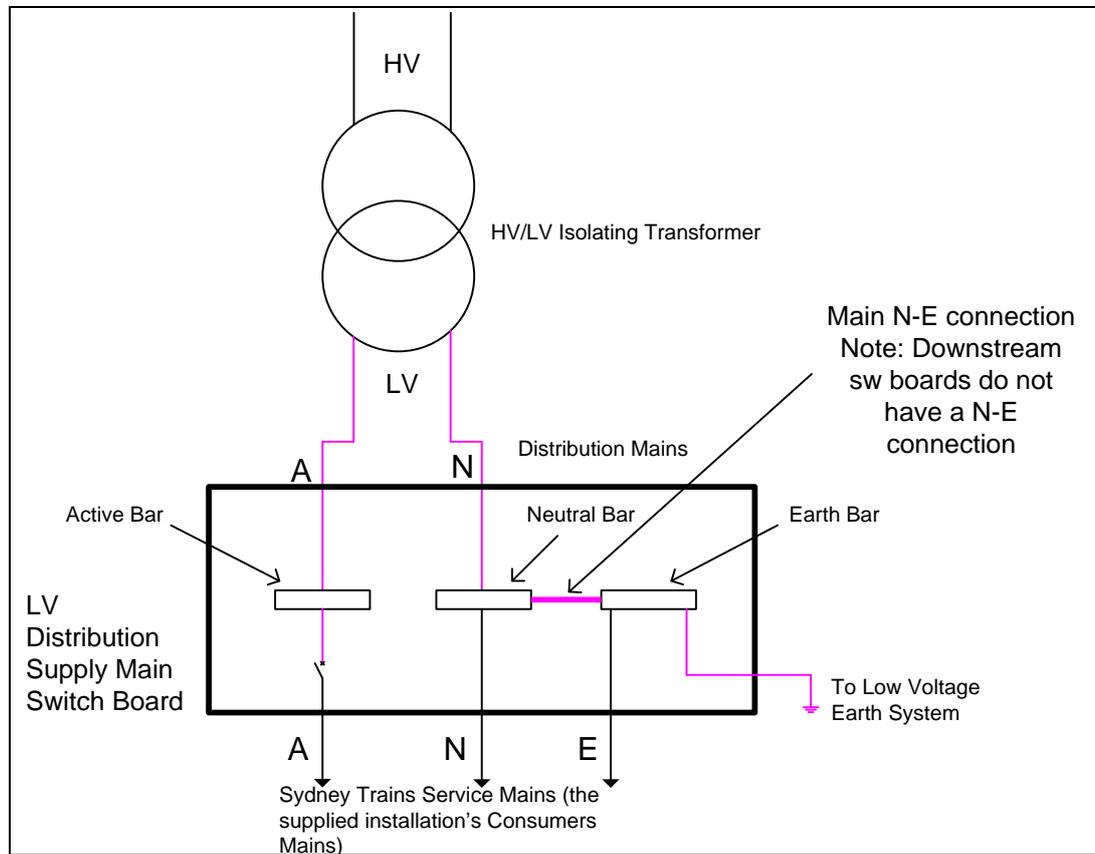
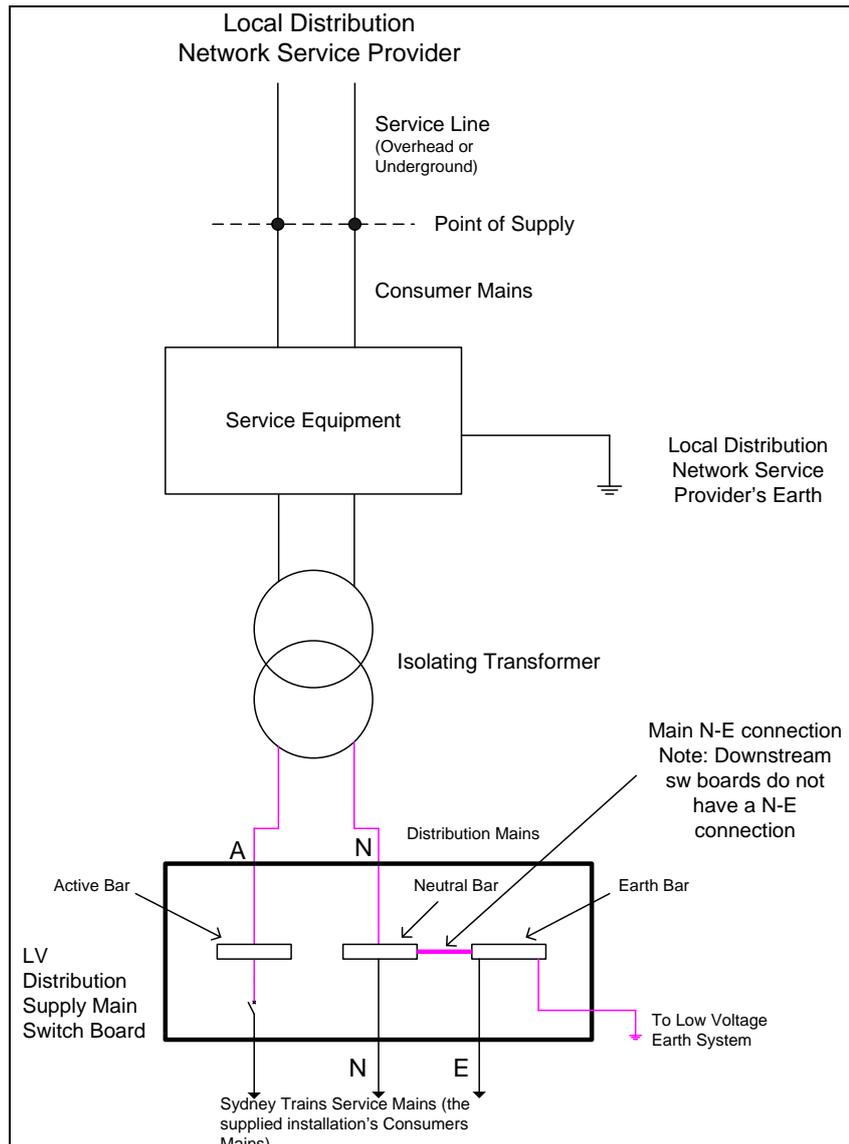

Figure 1: Supply from TAHE High Voltage Network (Main elements ONLY shown)
Figure 2: Station Supply from Local Distribution Network Service Provider (Main elements ONLY shown)
Transformers separate TAHE high voltage (HV) distribution system (refer to Figure 1 below) or the Local Distribution Network Service Provider's distribution system (refer to Figure 2 below) from TAHE LV distribution system.
When an LV supply is taken from the Local Distribution Network Service Provider (refer Figure 2 below), a TAHE isolation transformer is used. No connection shall be made to the isolating transformer screen and the enclosure of the transformer is not to be earthed.
Contrary to Figure 2 above, at the Distribution Supply Main Switch Board, there shall not be any connection between earth and neutral, except as authorised by the Engineer, Signal Standards.
Figure 1 and Figure 2 above show the LV Distribution Supply Main Switchboard and the respective Active, Neutral and Earth bars. The LV Distribution Supply Main Switchboard is the location to establish the one AND only connection between earth and neutral of the LV distribution system.